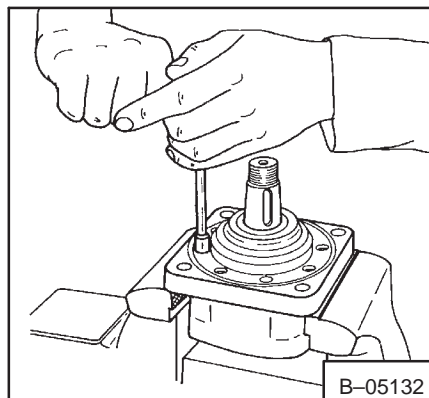

Fig. 3-49 Removing The Bolts
19. Turn the bearing housing over in the vise and remove the eight bolts (Fig. 3-49).